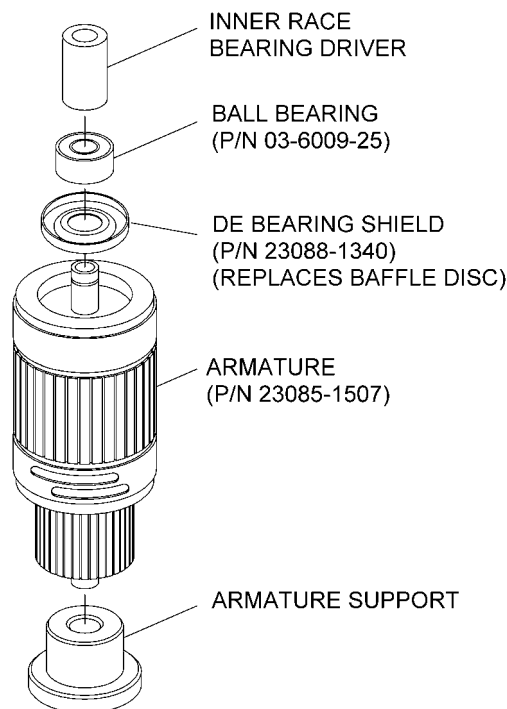

Figure 3 - Bearing Shield and Ball Bearing Installation
- (4) Install the DE bearing shield (P/N 23088-1340) and ball bearing (P/N 03-6009-25) onto drive end of armature (P/N 23085-1507) as follows: See Figure 3.